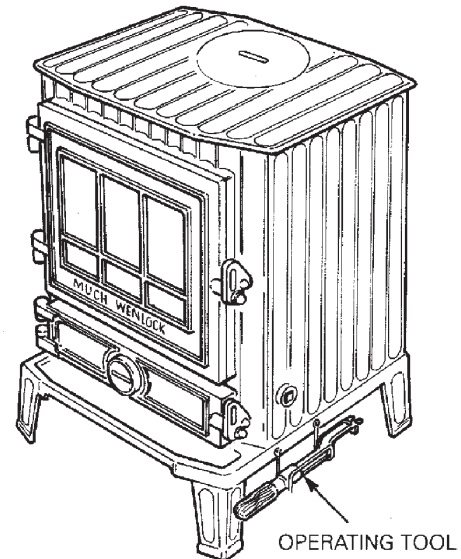

Fig. 5
- (g) Replace operating tool on its support cradle when not in use. See Fig. 5.